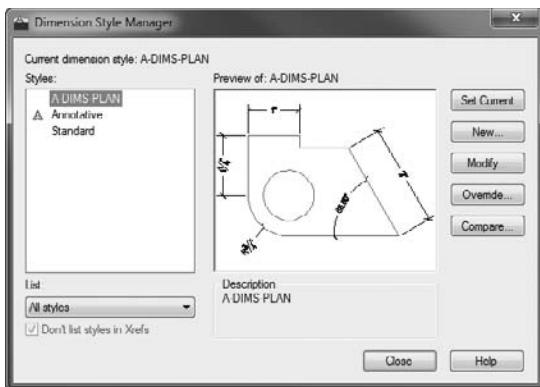

FIGURE 12.11 The Dimension Style Manager dialog box with A-DIMS-PLAN listed
1. Click the OK button at the bottom of the New Dimension Style dialog box. You're returned to the Dimension Style Manager dialog box (see Figure 12.11).